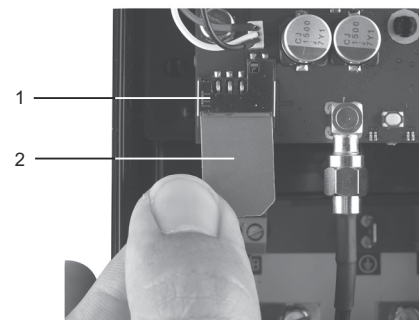

Fig. 11 Inserting the SIM card
3. Insert the SIM card into the CIM 250. See fig. 11.
**The connectors on the SIM card must face inwards towards the CIM 250. See fig. 11.**